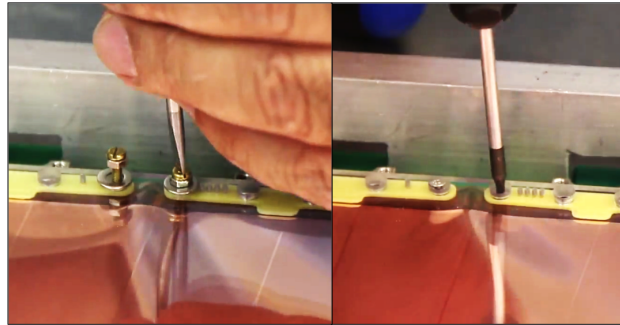

Figure 98: Detaching the Plexiglas cover from the GEM stack.
Step 13: Remove the long M2 screws that hold the Plexiglas cover and the GEM stack together (Fig. 98 left). Replace it with the final M2x6 mm screws as it was done for the other holes in the frame stack (Fig. 98 right). You will need to keep the Plexiglas cover without screws in place to protect the foil. The internal frames will be free to move while stretching the foils.